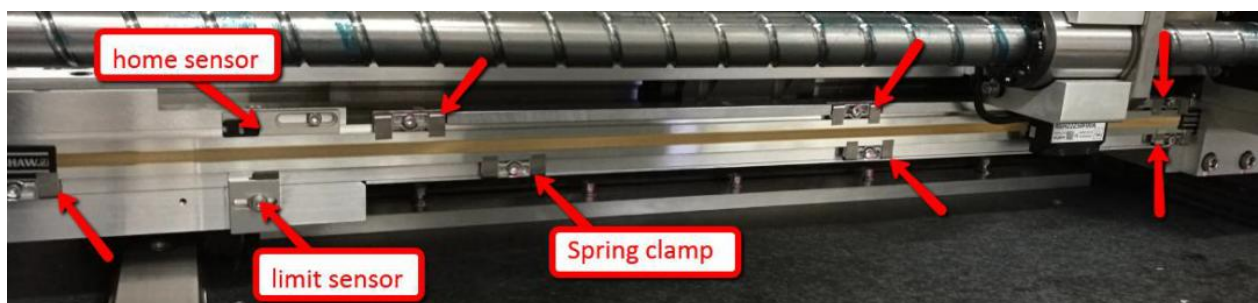

Figure 2 Glass scale
3. Remove all spring clamps, home sensor and limit sensor as shown in Figure 2.